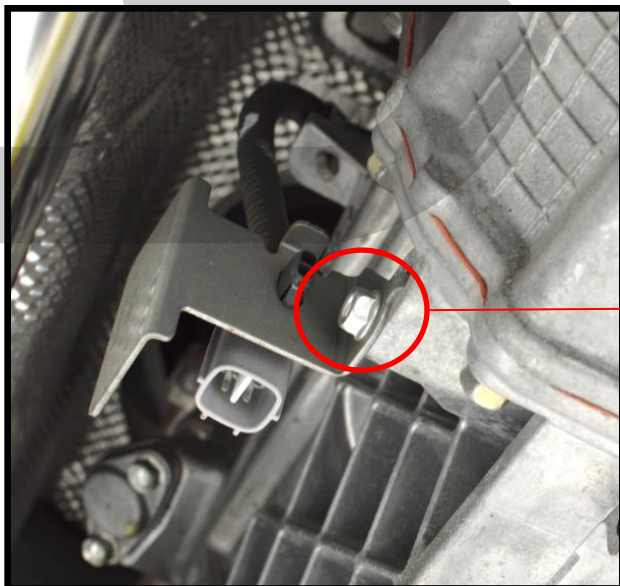
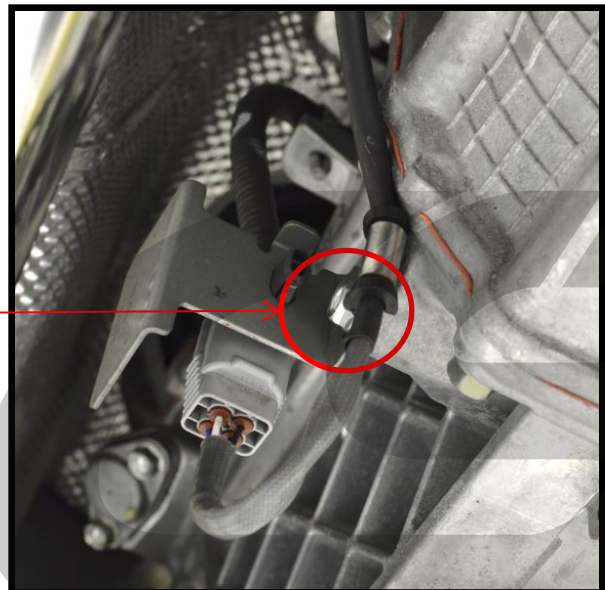

Figure 3e
Figure 3f
- f) **Install/Connect the O2 Sensor wire.** Remove the 10mm bolt **circled in red in Figure 3e.** Install the sensor wire bracket that was originally attached to the OEM exhaust; **shown in Figure 3f. Torque to 8-10 ft-lbs.** Connect the O2 sensor wires.